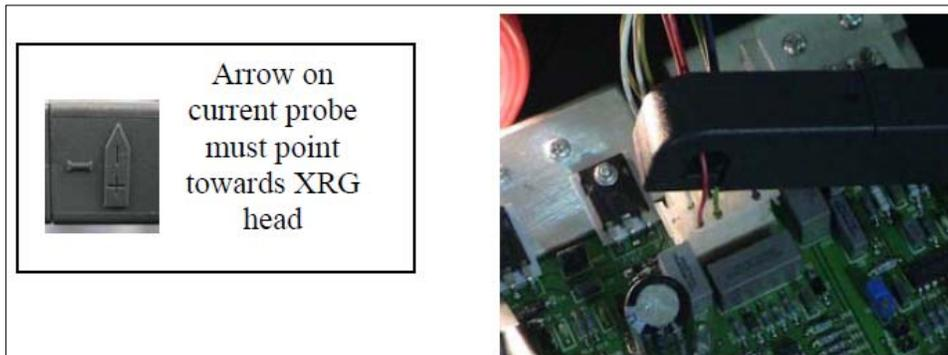

Figure 101: Current Probe Used to Observe mA Drive Signal
- b. Connect the current probe to Channel 2 of the oscilloscope. Set the current probe to 100mV/A. Clamp the probe around the red wires connected to Pin 3 of PL4. Ensure that the current arrow on the probe points toward the generator head. See Figure 101.